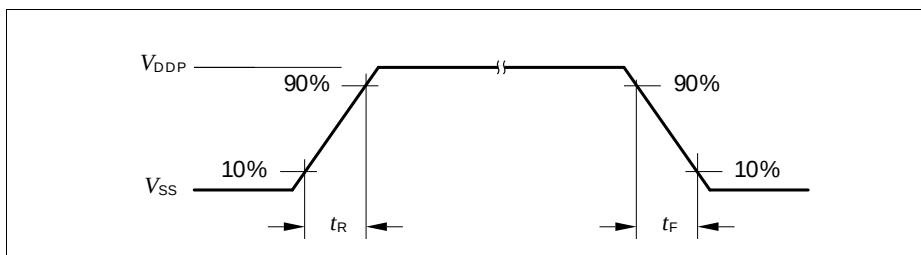

**Figure 9 Rise/Fall Time Parameters**
**Table 17** provides the characteristics of the output rise/fall times in the XMC1100. **Figure 9** describes the rise time and fall time parameters.